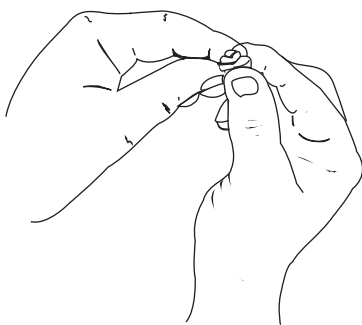

Fig. 64
5. Squeeze the filter to spread and remove excess oil (Fig. 64).